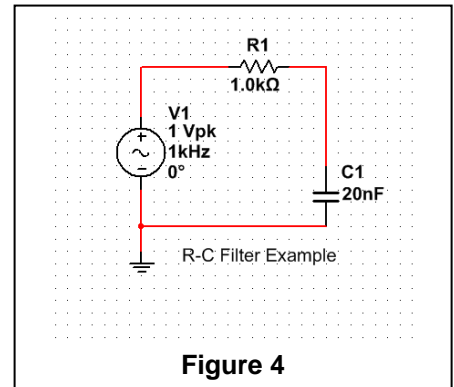

Figure 4
- Now you need to 'wire' all the components together as illustrated in figure 4. The auto wire tool starts as soon as you move the mouse over any component node. Click the mouse to start a wire then move to another node and click again to end the wire. With a little practice you can easily join components together but always do a final click when you get to the node at which you need to stop wiring. You can cancel an unwanted wire with the **Esc** key.